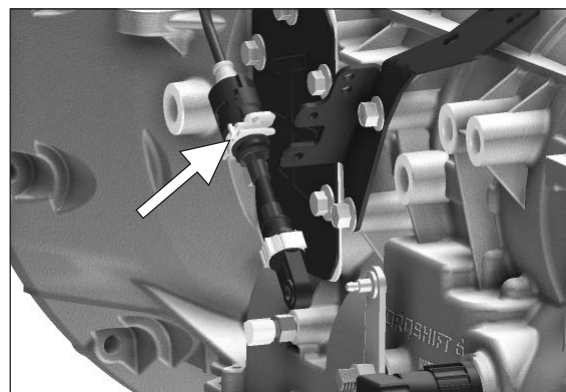

Figure 87
- Pull the clip and selector lever cable from the selector lever cable bracket (**Fig. 87**).